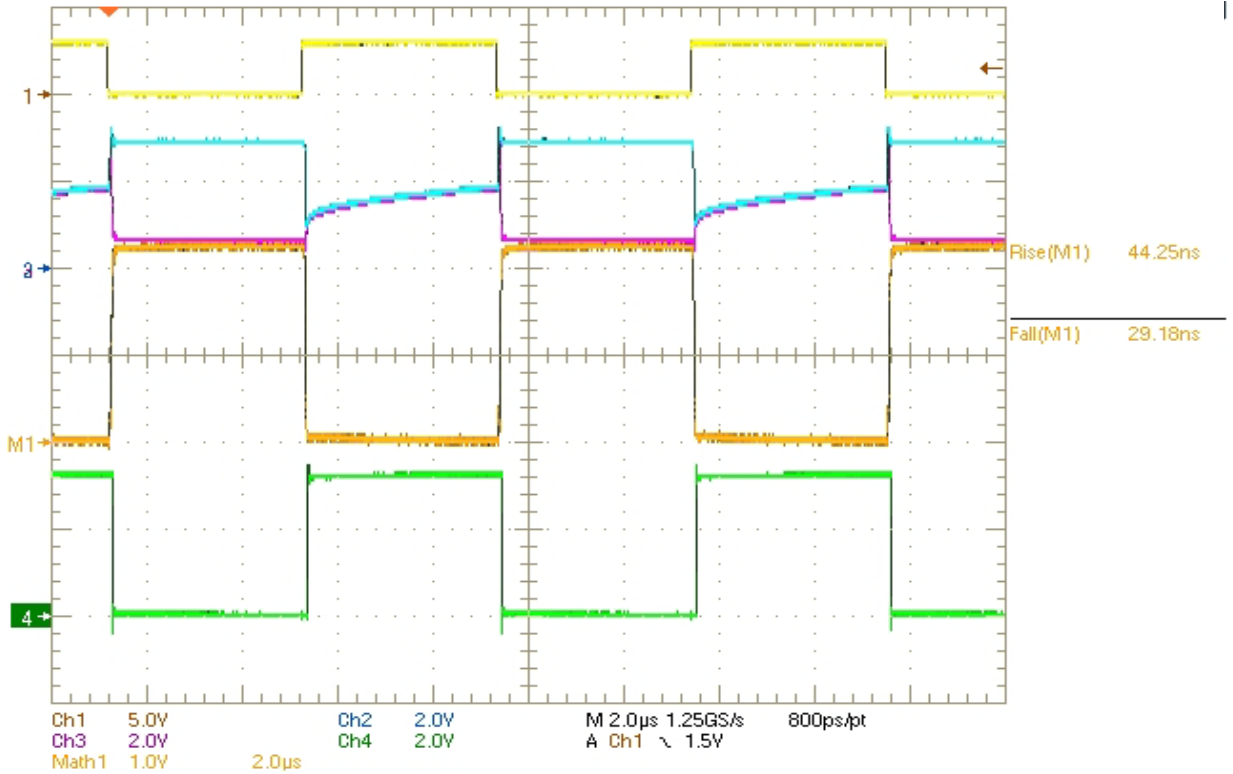

FIGURE 3. OSCILLOSCOPE PLOT (FAST SPEED) WAVEFORMS AND MEASUREMENTS
7. Enable the function generator. The scope plots should look like the ones shown in Figure 3 on page 6.